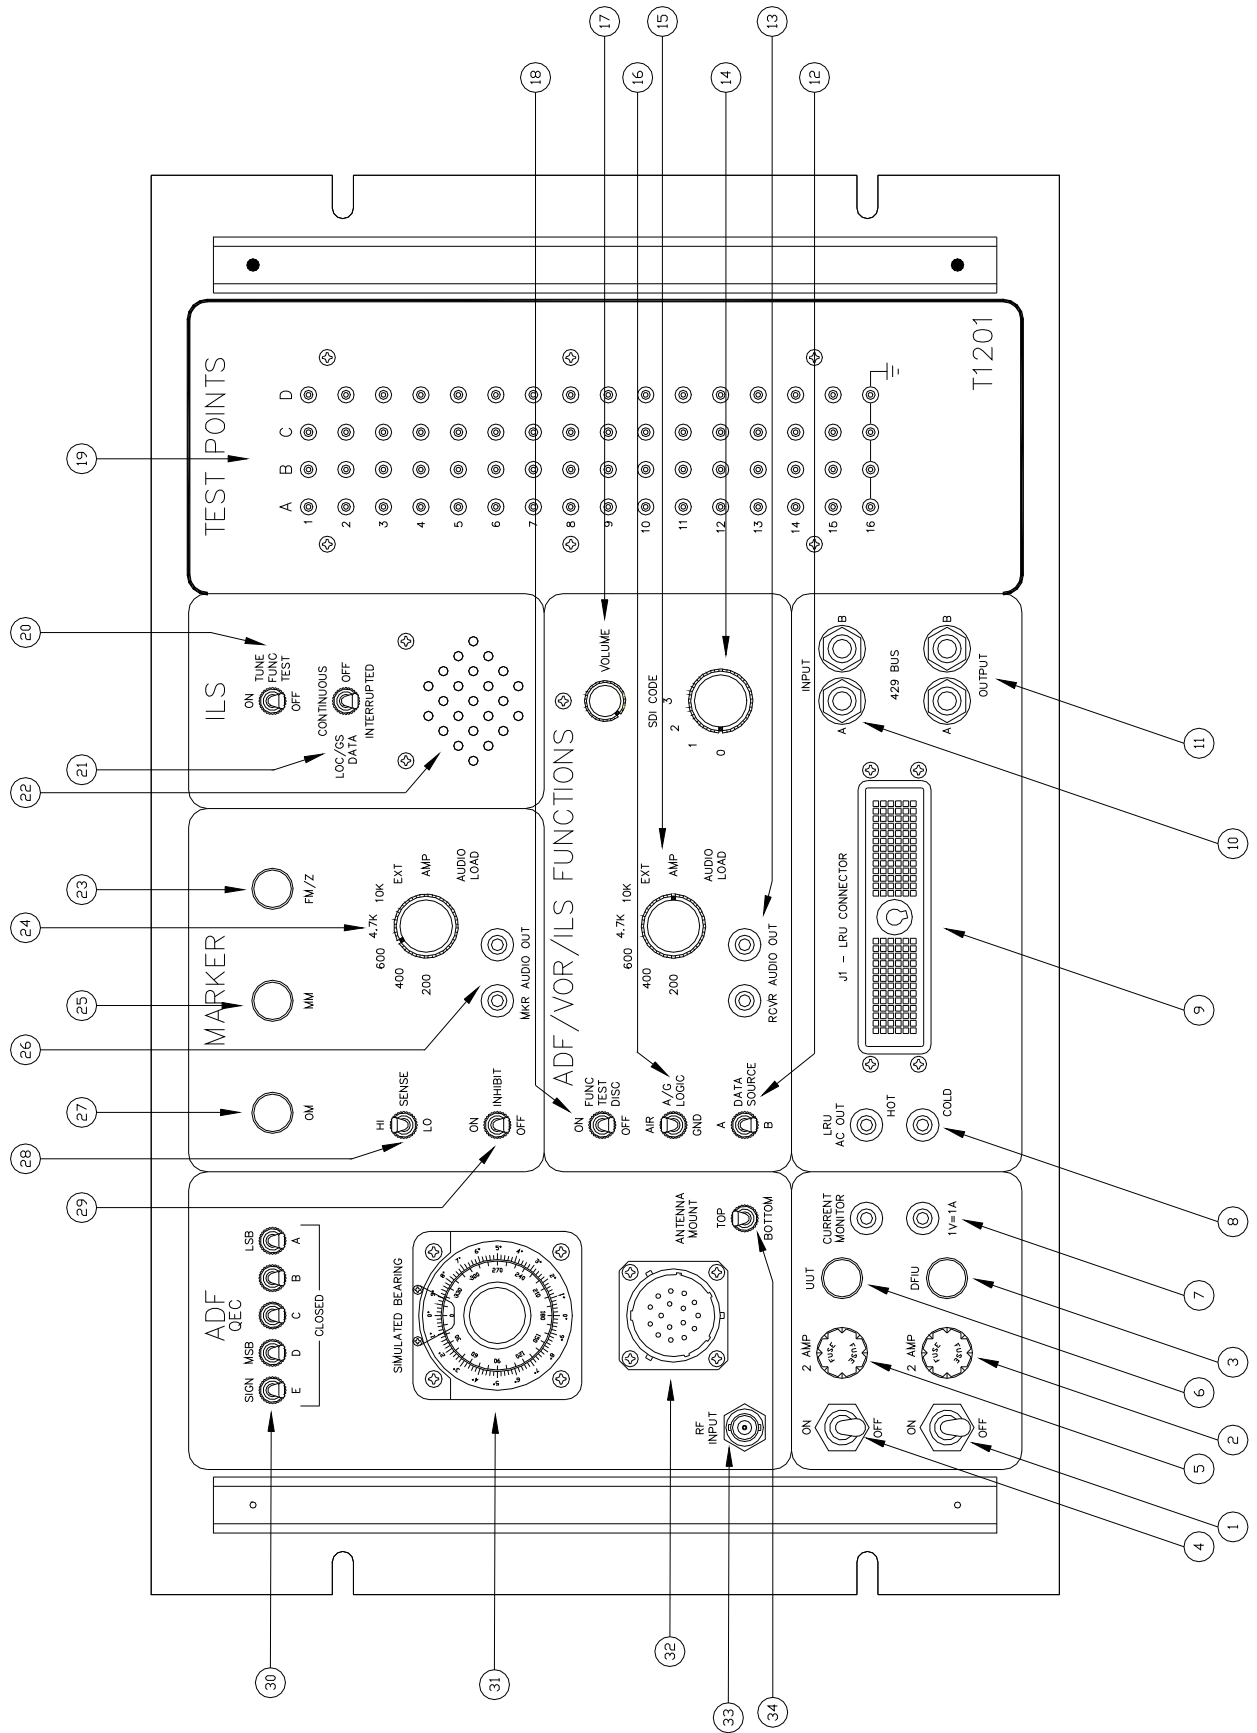

Fig. 3-1: T1201-Controls – Front Panel
3.2.1 CONTROLS – FRONT PANEL (Figure 3-1)